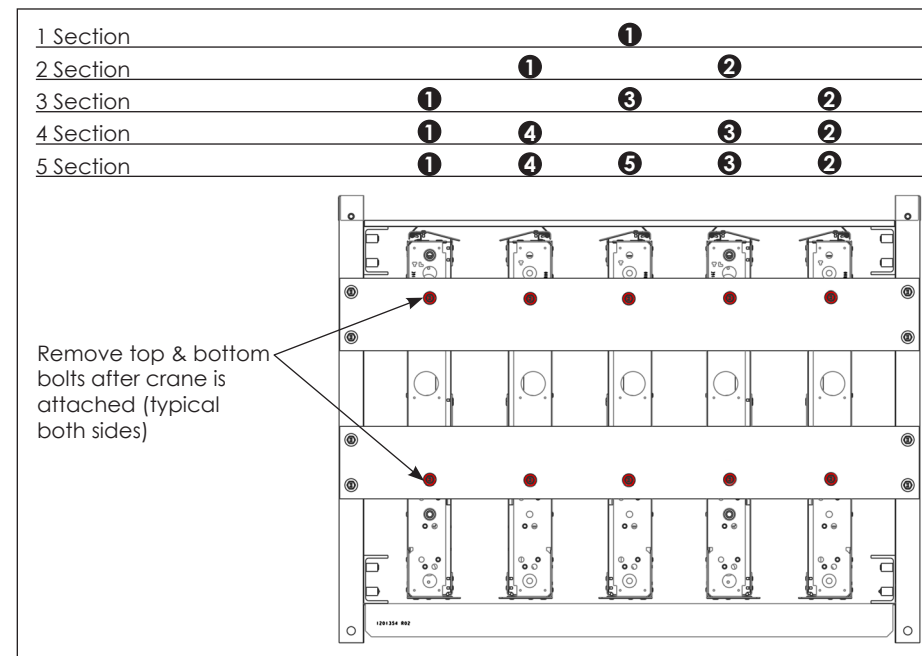
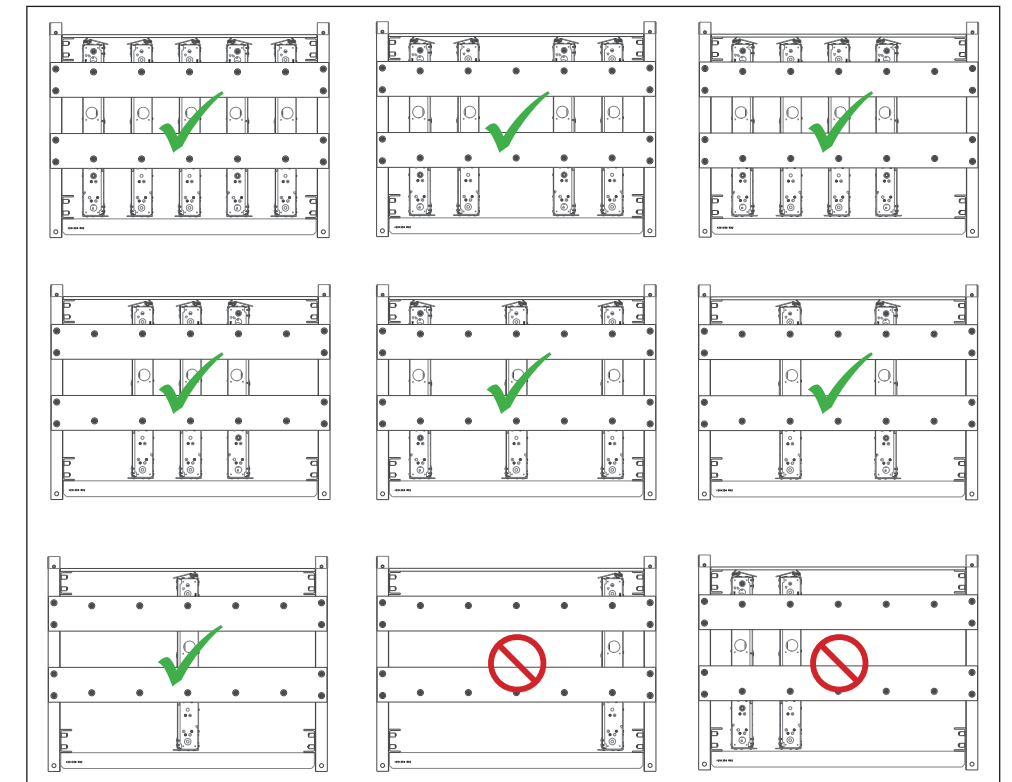

Figure 4: Section Lift Order (Front View)
Figure 5: Stable vs. Unstable Crate Configurations (Side View)
2. Use the hex security bit (Daktronics part number TH-1170) supplied in the toolkit to unlatch the beverage shroud. Flip the beverage shroud open and insert lift eyes in the top of the first display section. Refer to the **RTN-301 Series Section Basics Quick Guide (DD3956753)**. Attach the crane to the lift points. Refer to **Figure 4** for the section lift order and to **Figure 5** for proper configurations.
Figure 5 shows stable and unstable configurations.